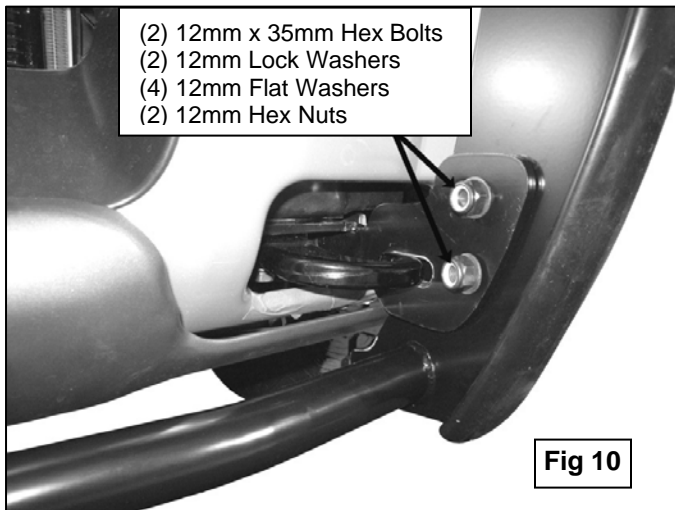

Fig 10
- With help, position Grille Guard on the outer side of the Mounting Brackets. Attach Grille Guard to Mounting Brackets with the included (6) 12-1.75mm x 35mm Hex Bolts, (4) 12mm Nylock Nuts, and (8) 12mm Flat Washers, **(Figure 10)**. Do not tighten at this time.